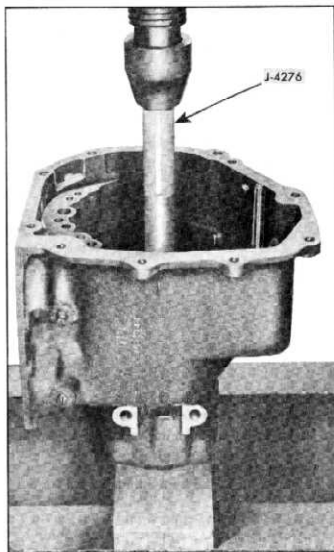

Fig. 117—Installing Transmission Rear Bearing
- Place new bushing on bushing installer J-4276 with the square end of bushing against shoulder of installer. Insert in case entering pilot of tool into rear bearing and press bushing into place (fig. 117).